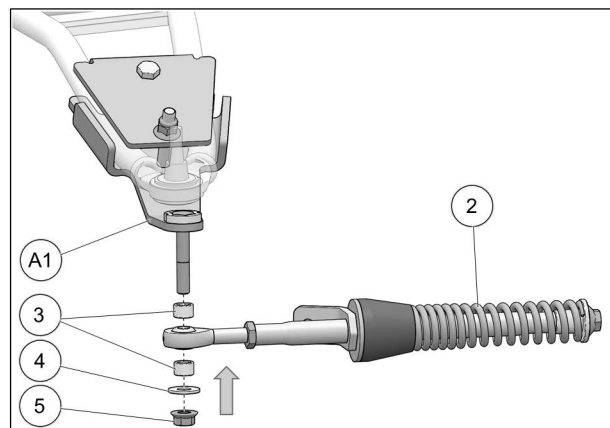

Fig. 23
9. Attach the stabilizing rod (**2**) to the anchor bracket (**A1**), using the two spacers (**3**), washer (**4**), and nut (**5**). Torque to 70 Nm [52 lb•ft]. Refer to Fig. 23